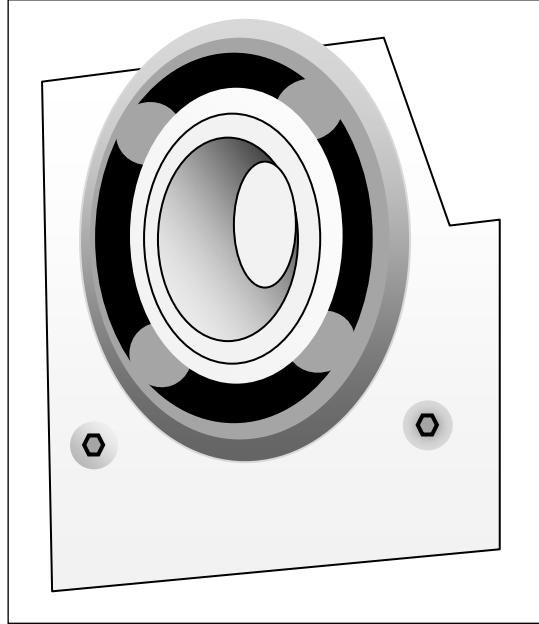

Figure 050-2: Screws Securing Roller Drive Motor to Frame
9. Remove the 2 T30 screws securing the motor to the frame from outside the frame. See Figure 050-2.